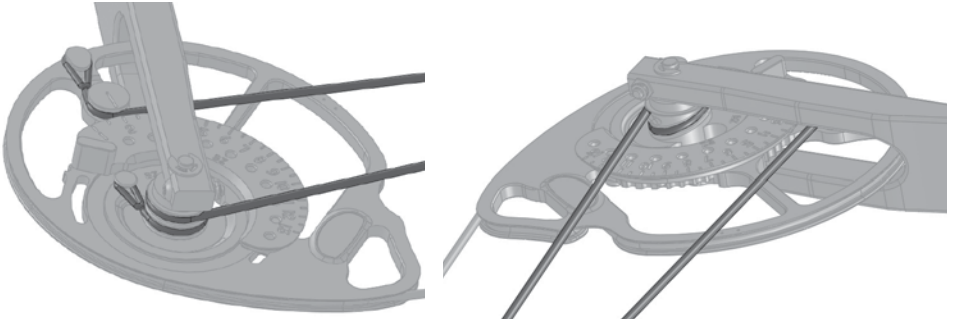

Figure 3. Correct Cable Routing
4. After cam/string adjustment is made, double check all string and cable post connections, as well as tracks to ensure they are seated properly (See Figure 3).